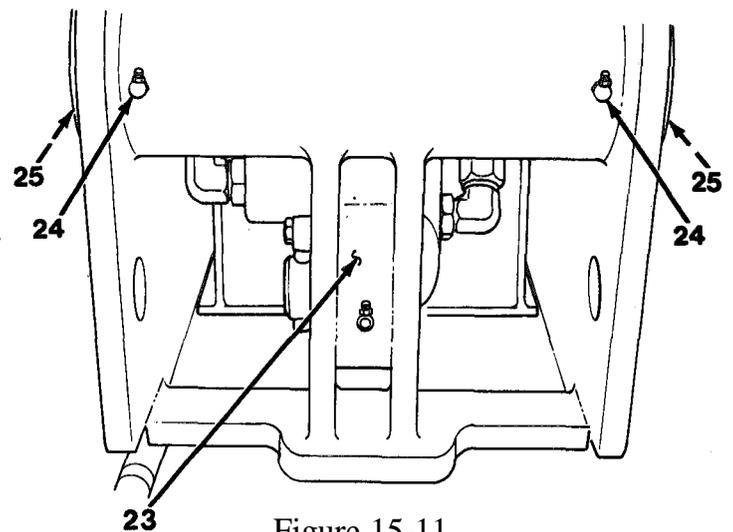

Figure 15-11
7. Remove boom extend cylinder (23, Figure 15-11) from rear of boom tip section.
8. Remove two grease zerks (24) and two bushings (25) from boom base section, if inspection proves necessary.